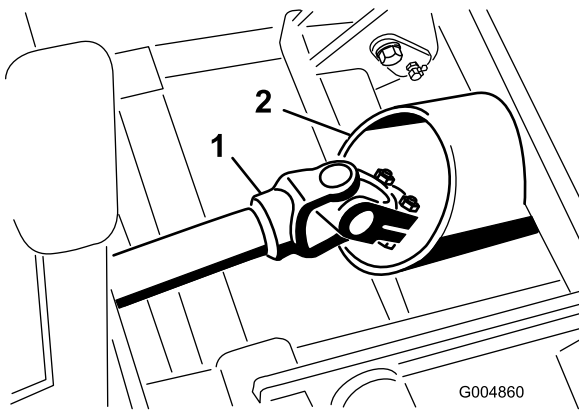

Figure 34
4. Carefully roll the winter frame assembly into position while routing the drive shaft through the frame tube (Figure 34).